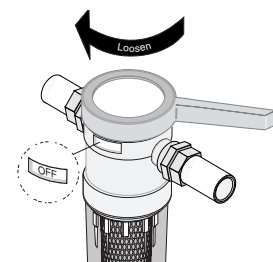

Figure 5
- Turn the filter top (using the blue wrench supplied with the cartridge) clockwise about 45° to "OFF" (see Figure 5).